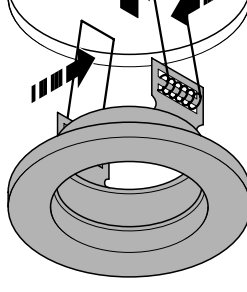

Fig. 3
5. Press the springs together and place the lamp in the sawn out hole (see Figure 3).